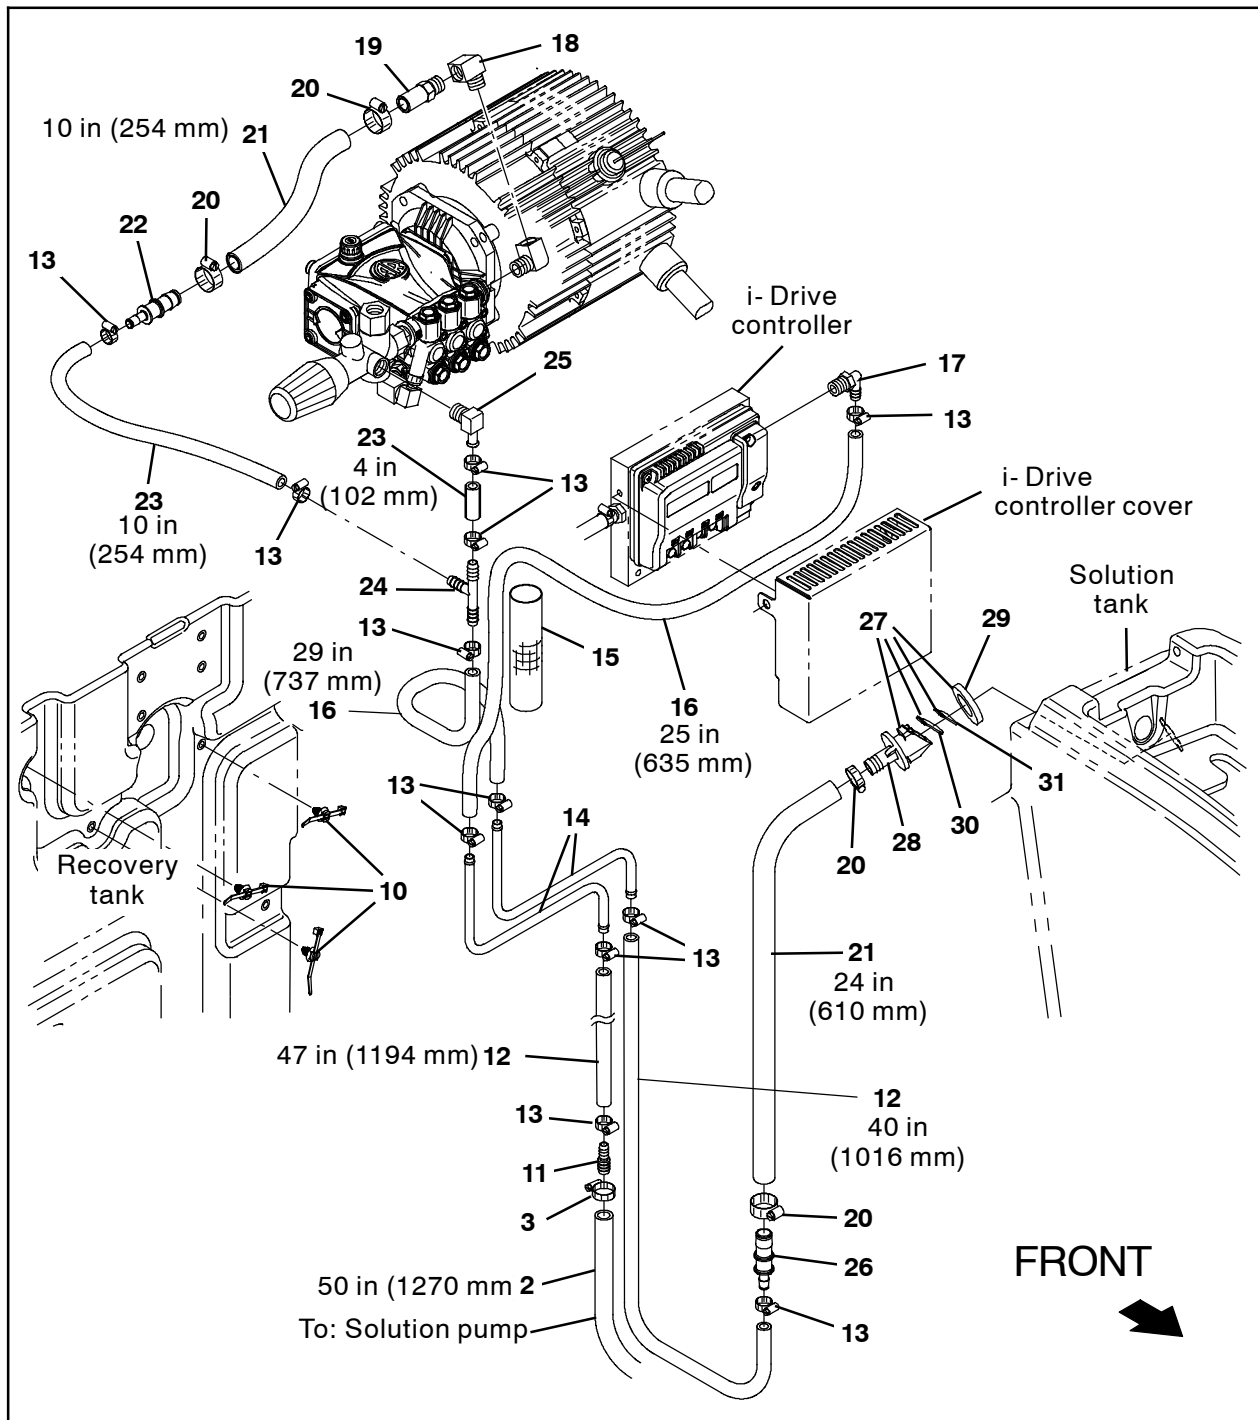

FIG. 9
- 17. Connect the 40 in (1016 mm) hose (12) to the 24 in (610 mm) hose (21). (Fig. 9)
- 18. Connect the 24 in (610 mm) hose (21) to the solution tank. (Fig. 9)
- 19. Connect the other end of the 40 in (1016 mm) hose (12) to a pressure washer water tube (14). (Fig. 9)
- 20. Connect the 29 in (737 mm) hose (16) to the other end of the pressure washer water tube (14) from the previous step. (Fig. 9)
- 21. Connect the 47 in (1194 mm) hose (12) to the 50 in (1270 mm) hose (2) from the water pump IN port. (Fig. 9)
22. Connect the other end of the 47 in (1194 mm) hose (12) hose connected to the 50 in (1270 mm) hose (2) to the remaining pressure washer water tube (14). (Fig. 9)
23. Connect the 25 in (635 mm) hose (16) to the other end of the pressure washer water tube (14) from the previous step. (Fig. 9)
24. Use wire ties (10) to secure the pressure washer water tubes (14) to the front of the recovery tank. (Fig. 9)
34. Remove the hardware securing the control panel to the machine. (Fig. 9)